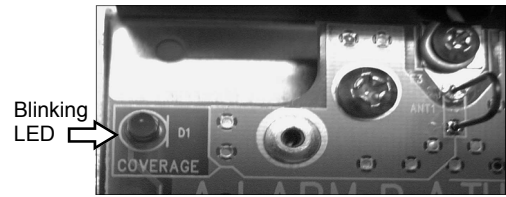

Fig. 1. Testing Signal Strength
- Press the test button (S1), on the bottom right hand corner; the unit will transmit and display one long blink (see Fig. 1). Observe the coverage LED, count the number of blinks and compare to the Coverage Chart (right). Move the unit as required to achieve the best coverage (signal strength) possible. As needed, re-position the unit, transmit and watch the Coverage LED to indicate change. The unit will not transmit until 15 seconds have passed since last test. There is a 2 second delay between blink cycles.